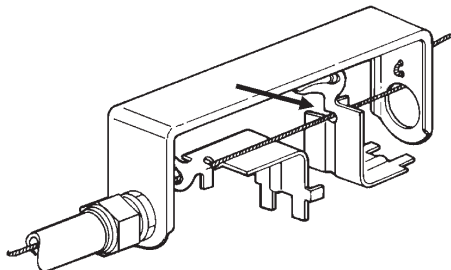

FIGURE 23
9. Place the tab of the other half of the detector linkage on the opposite side of the wire rope and press the linkage until it snaps onto the rope. See Figure 23.